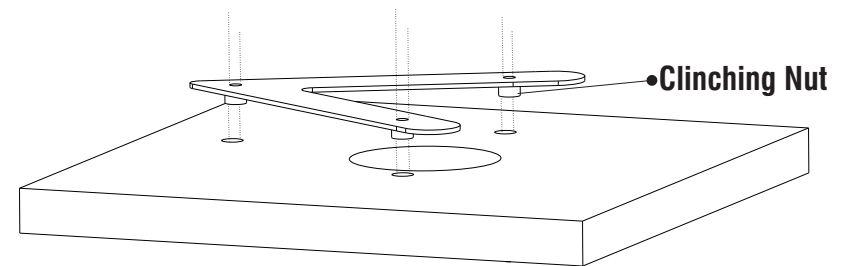

Figure7
- Move Ceiling Support Plate manually as the holes on Ceiling Support Plate align with the holes (7.5mm) on mounting template as illustrated in **Figure:7**